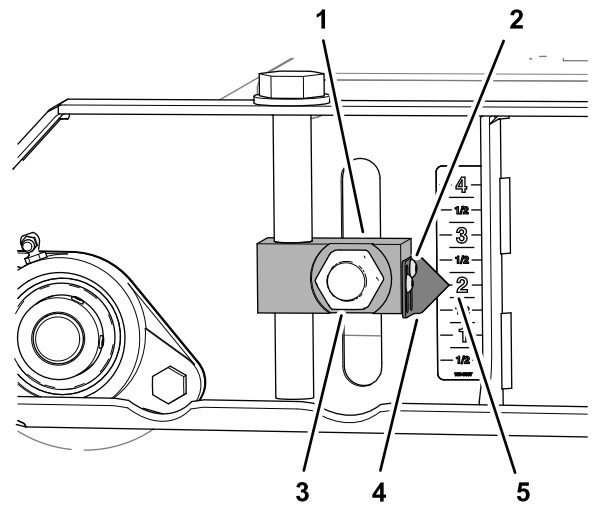

Figure 76
3. Loosen the 2 socket-head screws that secure the pointer to the height-of-cut adjuster block, align the pointer to the 2 inch mark on the decal, and tighten the screws (**Figure 76**).
7. Torque the 4 nuts that secure the 4 height-of-cut adjuster blocks (Figure 76 and Figure 78) for the front and rear rollers to 322 to 396 N·m (238 to 292 ft-lb).